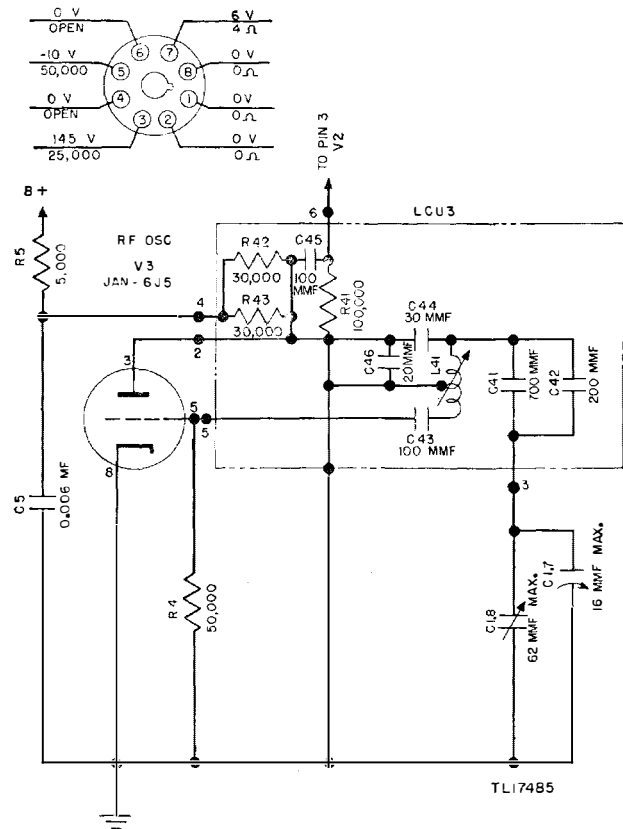

Figure 27.—Radio Receiver BC-603-(*), radio-frequency oscillator, V3—schematic diagram.
34. Parts List for R-f Oscillator Stage, V3 (fig. 27)